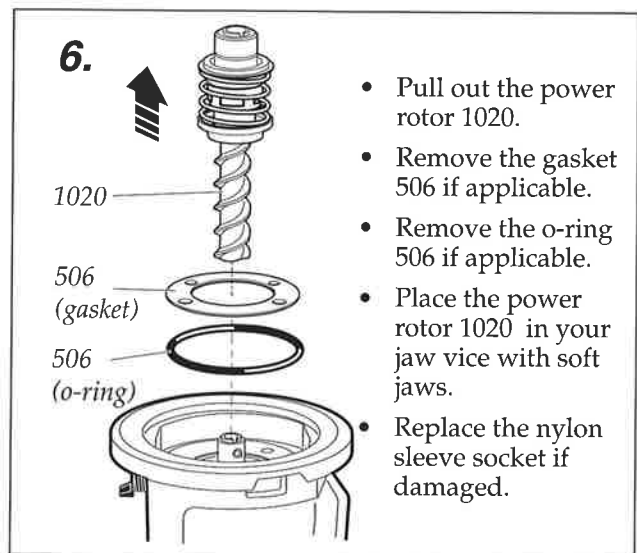

Fig.11
2) The spare part set includes both O-ring and gasket see Fig. 11 page 7.